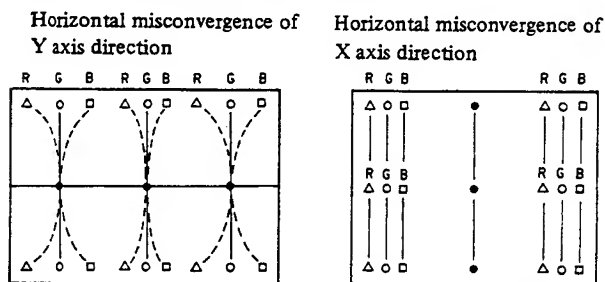

Figure 17
The Deflection Yoke (DY) used in this model generates an almost uniform magnetic field in order to get fine beam spot size. Accordingly basically misconvergence of horizontal direction as shown in Figure 17 is generated on the picture screen.